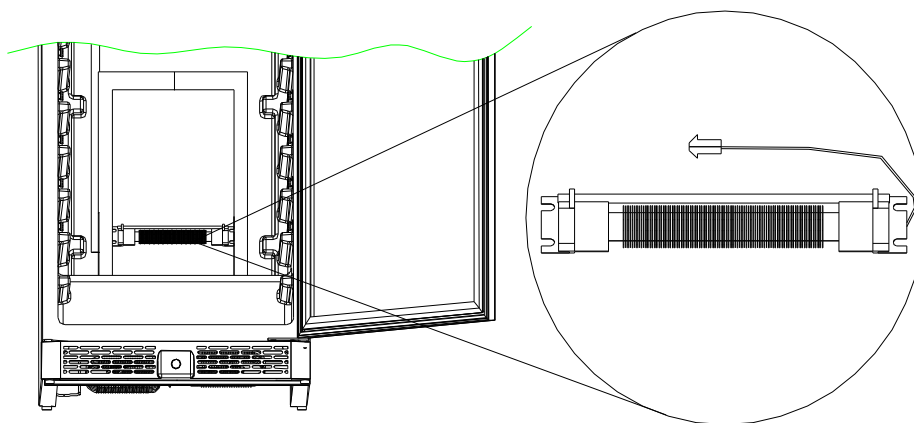

Fig. 15
- 3>. Remove the fixing screws of heater,replace it. (Fig.15)